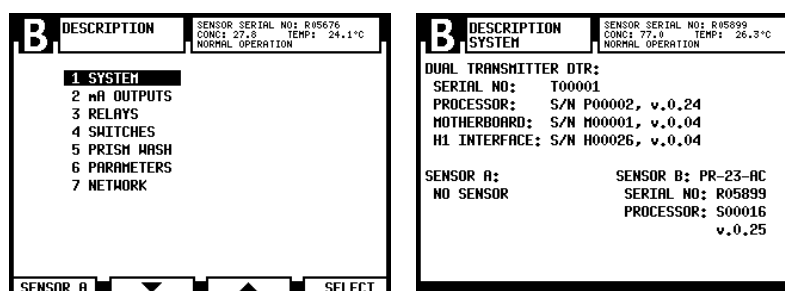

Figure 5.5 System description
The Description menu (Figure 5.5) leads to the following information:
1. SYSTEM: See Figure 5.5, right side.